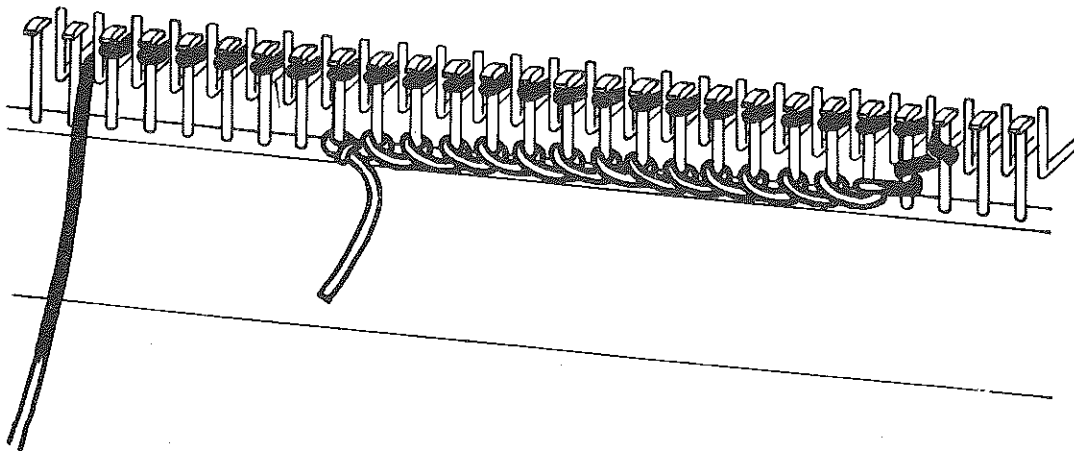

Fig. 12
F. The wool must always be inserted a few stitches further than the width of the work. (Fig. 12.)
H. Smoothly slide the Black Knob to the **Extreme Left** so that the wool is formed in a zig-zag position as shown. (Fig. 12.)